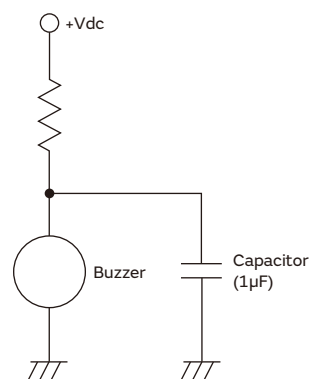

Fig. 2
4. Please don't put a resistor between the oscillation circuit and power supply to control the sound volume of the piezoelectric sounder or the piezoelectric buzzer. Doing so could cause an unstable sounding state like an abnormal oscillation or the oscillation stopping because of the change in oscillation conditions. Please insert a capacitor (about 1μF) in parallel with the piezoelectric buzzer, if you need to control the sound volume. (Please see Fig. 2)